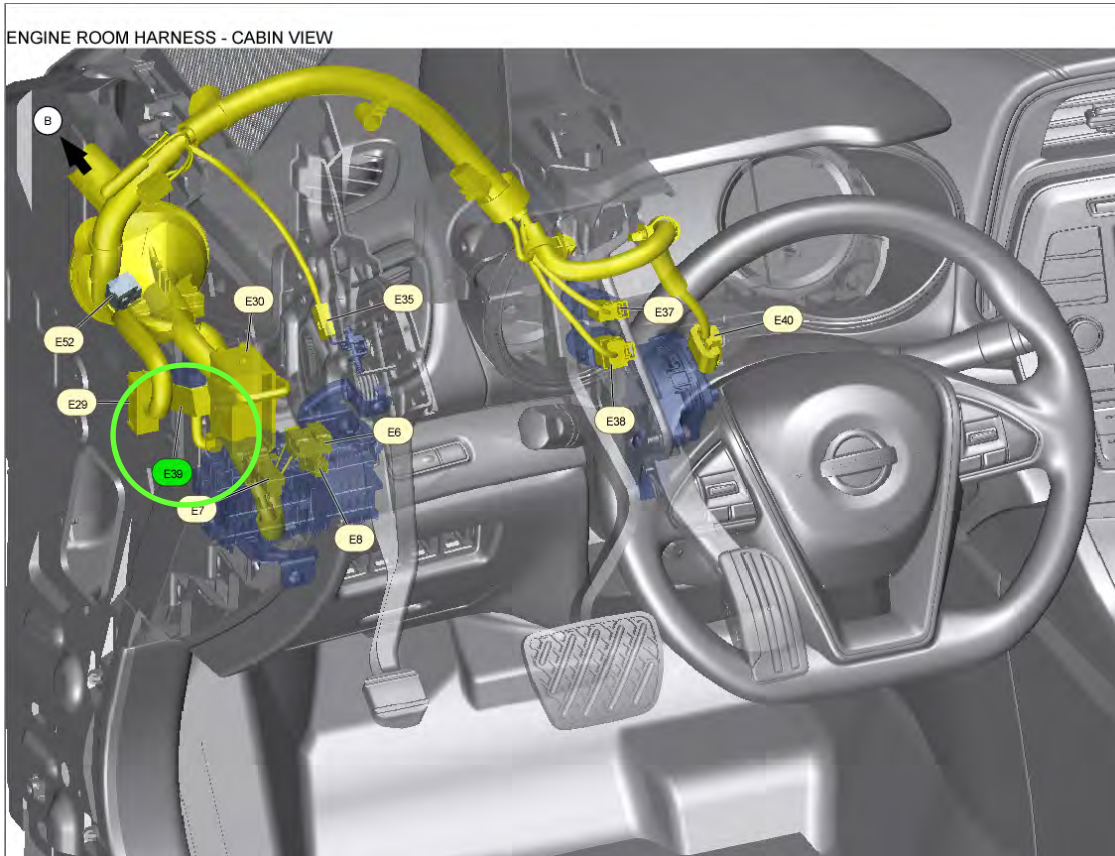

Figure 2
5. Locate Joint Connector-E08 (shown as E39 in Figure 2).